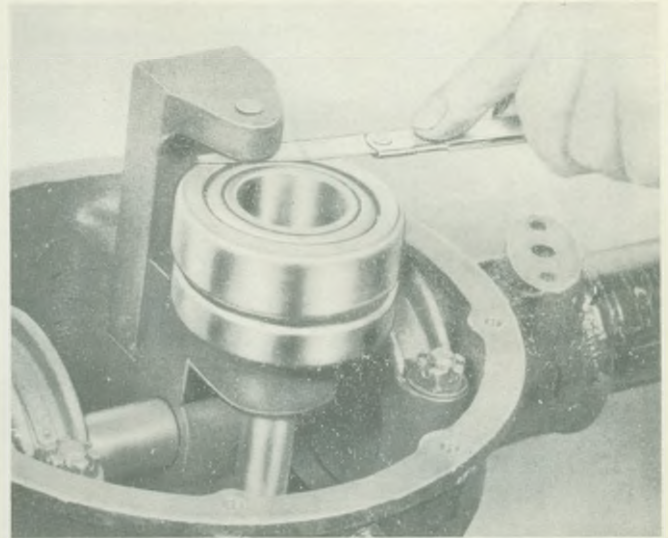

Fig. 21. Employing special fixture to enable estimation of "shimming" required
6. Apply pinion shim estimating fixture, placing the taper roller bearing, which abuts against the ground thrust face of the pinion head, beneath the anvil of this fixture as shown in Fig. 21. Utilize a feeler gauge to check the clearance between the upper side of this bearing and the adjacent ground face of the